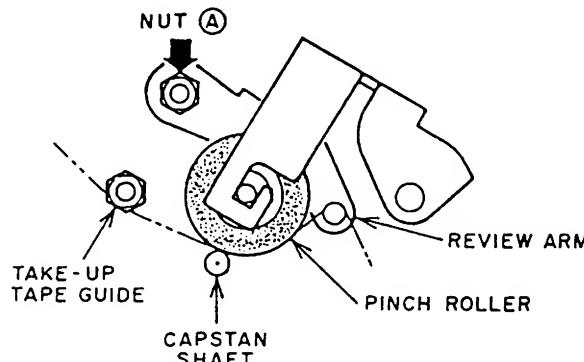
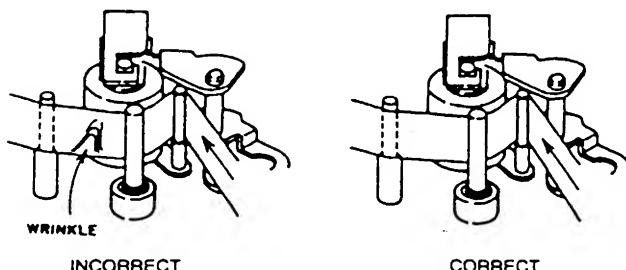

Fig. 4-6
Fig. 4-8
2) Turn the REVIEW ARM height **Ⓐ** nut so that the edge of the tape barely touches the lower part of the TAKE-UP TAPE GUIDE without any curl or wrinkle between the TAKE-UP TAPE GUIDE and the CAPSTAN SHAFT as shown in Fig.4-6 to Fig.4-8.
If curl or wrinkle of the tape has occurred, slightly turn the **Ⓐ** nut (Shown in Fig.4-6) until it disappears.